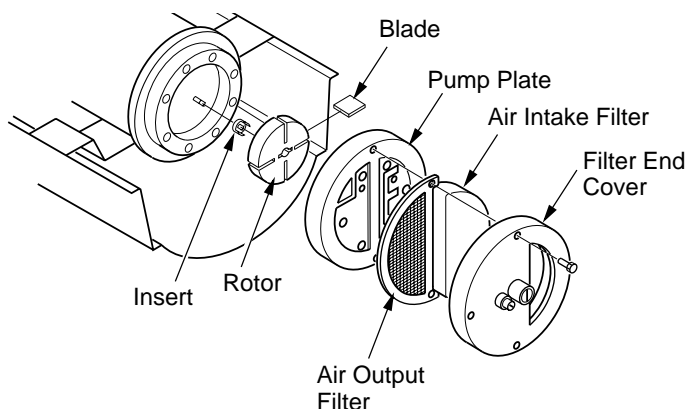

Figure 29 - Rotor Location, 40/55/60/70 Models
2. Remove filter end cover screws using 5/16" nut driver (see Figure 29 or 30).
6. Remove rotor, insert, and blades (see Figure 29 or 30).